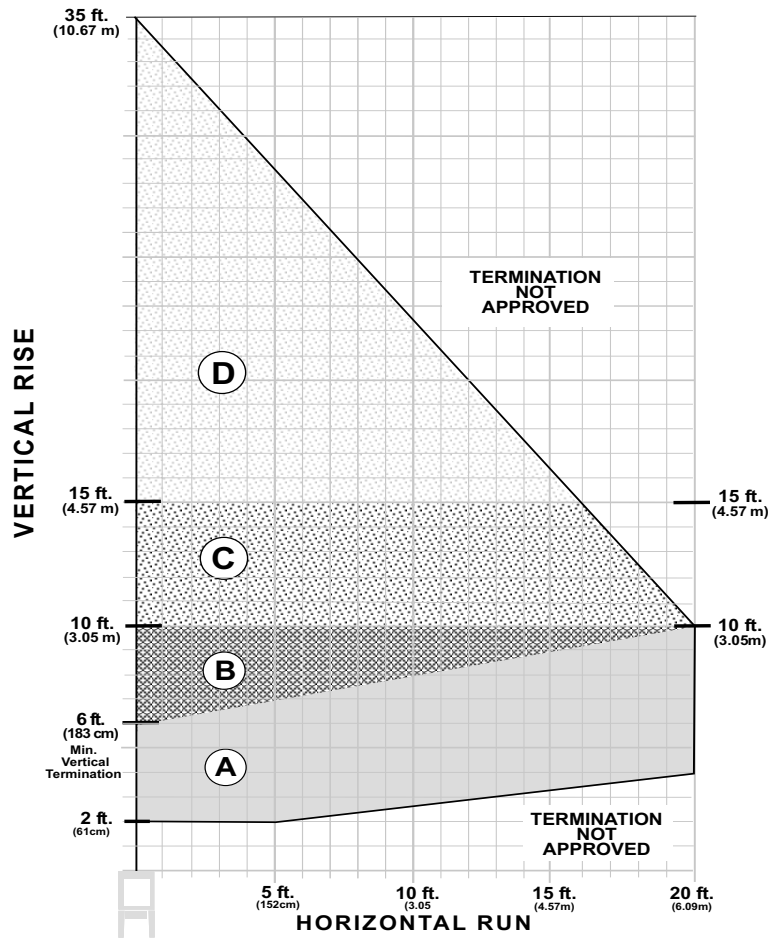
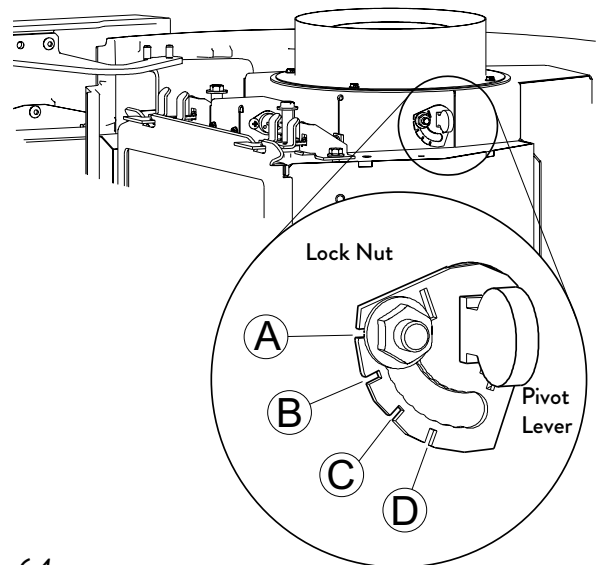

Figure 6.2.
Figure 6.4.
The Exhaust Restrictor plate is located within the firebox exhaust outlet. It is adjusted by rotating the dial on the right side of the outlet within a range beginning at the factory-set, fully open position (no restriction) to a fully restricted position. See Figs. 6.2 and 6.3. The Minus (-) and Plus (+) signs on the dial relate to degrees of restriction, from zero to approximately 70%. The four, lettered positions correlate to the termination zones (A,B,C,D) diagramed in figure 6.4. Use the diagram to determine the degree of restriction and shutter setting that correlates to your vent configuration.
Determine the dial notch position appropriate to your vent configuration as designated in Fig 6.2. Pivot the dial to align the lock nut with that notch.
- The termination should fall within the shaded areas of the grids depicted in the Vent Matrix, fig. 6.2, page 10.
- **Maximum Horizontal run is 20 ft. (152 cm)** See Fig. 6.2 for related termination zone limitations.
- Any horizontal termination must fall within the shaded portion of the vent window matrix shown in fig. 6.2.